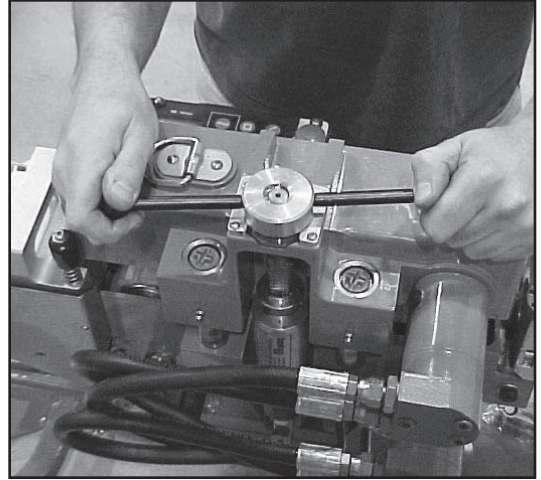

Figure 2
2. Unscrew handle completely (Figure 2)